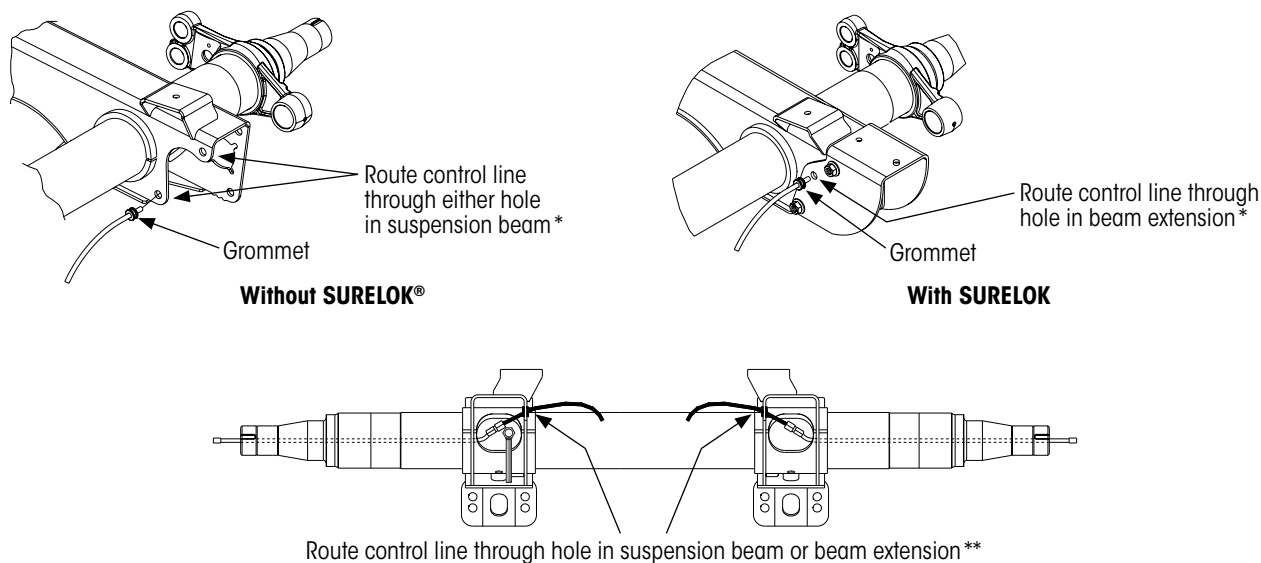
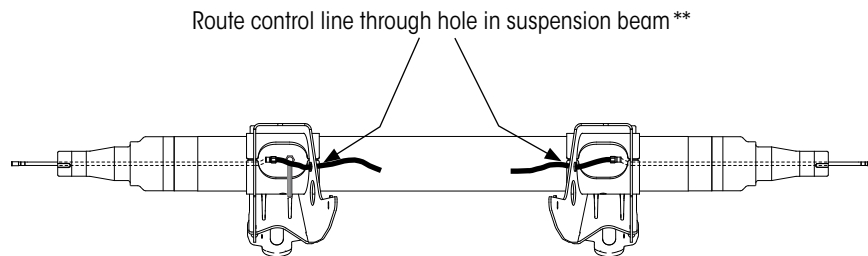

Figure 11: Suggested control line installation details for Top Mount, Wide Bushing, Standard Duty Models **AAT, HKAT**
Figure 15: Suggested control line installation details for Low Ride, Narrow Bushing, Standard Duty Models **AANL, HKANL**
3. Clock fitting, in tightening direction only, for applicable suspension. See Figure 11 to Figure 15.
For systems with one, two or more additional axles, observe the installation requirements as shown in the following diagrams (Figure 11 to Figure 15). Extend the main $\frac{3}{8}$ inch tubing as necessary.